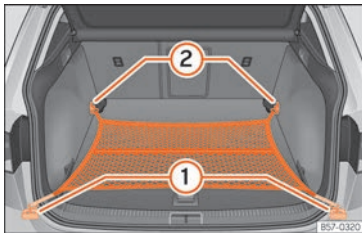

Fig. 122 In the luggage compartment: net bag hooked up at floor level.
- Secure the net hooks to the fastening rings ① and ② »» Fig. 122 »» ⚠. The bag zip should be facing upwards.